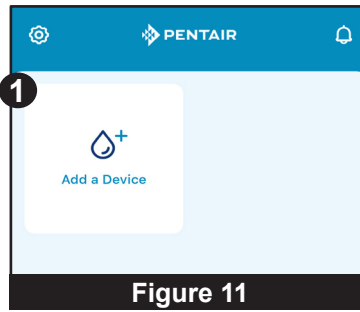

Figure 11
1. At the Account Dashboard (**Figure 11**), press ADD A DEVICE (1).